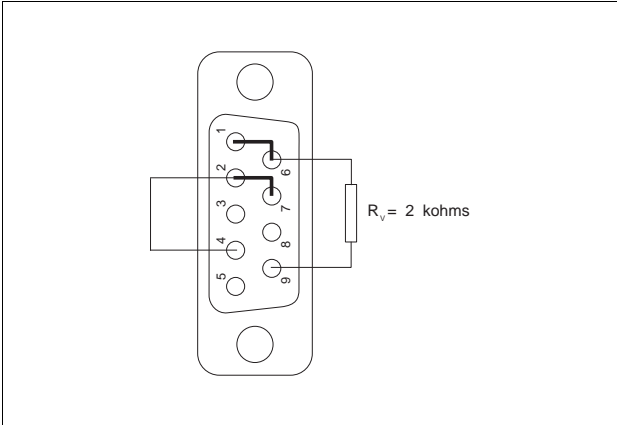

Fig. 3-8 Teach-in connector
1. Wire teach-in connector according to fig. 3-8 (9-pole sub-D connector, female, DIN 41651, quality level 2).
4. Set operating mode selector switch (47) to "0".